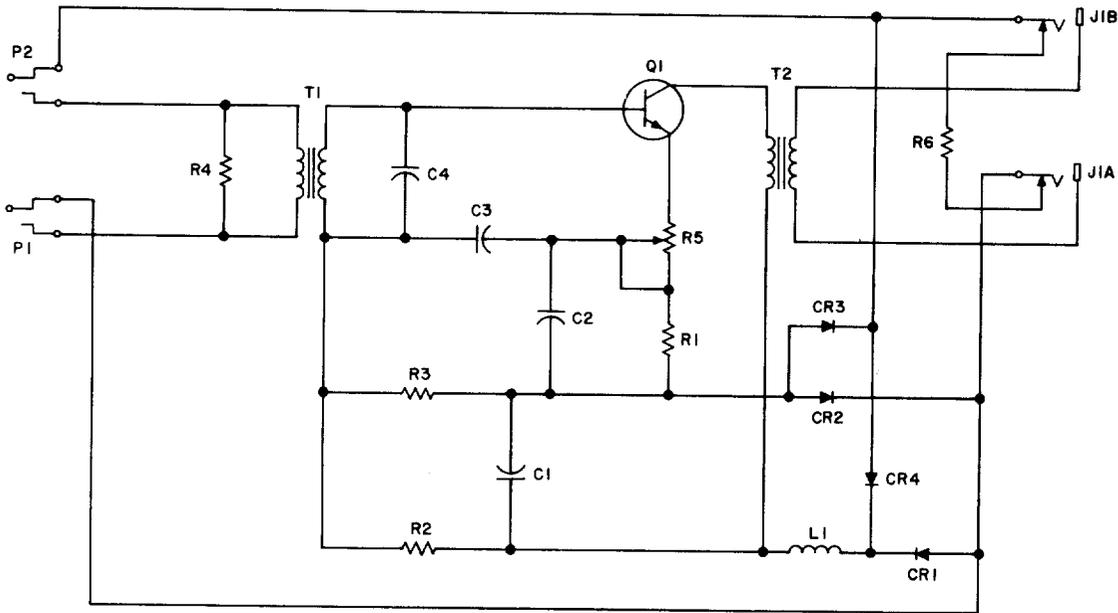

Fig. 6—Circuit for the 153B Amplifier
2.03 The 153B amplifier is similar to the 153A except that the case has the Bell System marking and printed circuitry is used. In addition, the three semiconductor diodes which are mentioned as being used in the modification of the 153A amplifier for certain conditions of use have been incorporated in the 153B amplifier. The circuit for the 153B amplifier is shown in Fig. 6.